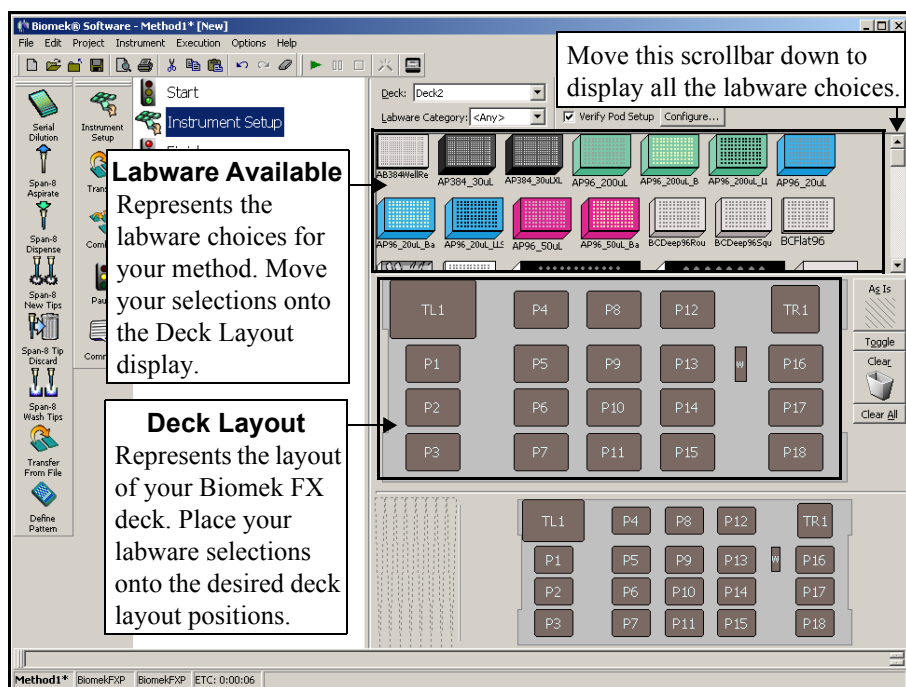

Figure 5-5. Instrument Setup step configuration
3. Click the **Instrument Setup** icon to insert the step. The Instrument Setup configuration appears (Figure 5-5).